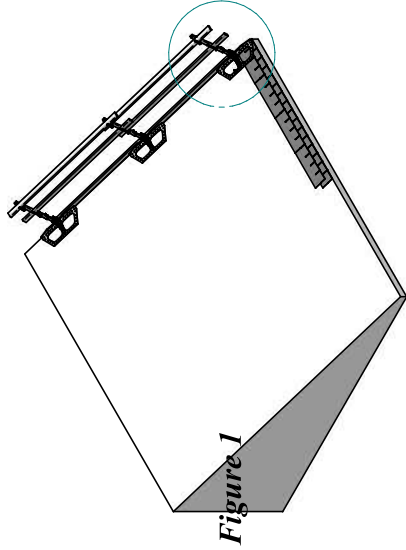

Figure 1
- a. Install the upright onto the base using the hardware provided. Position the top rail so that once in place, it is between the workers and the upright. *(See figure 1 through 4 as well as illustrations of related details)*